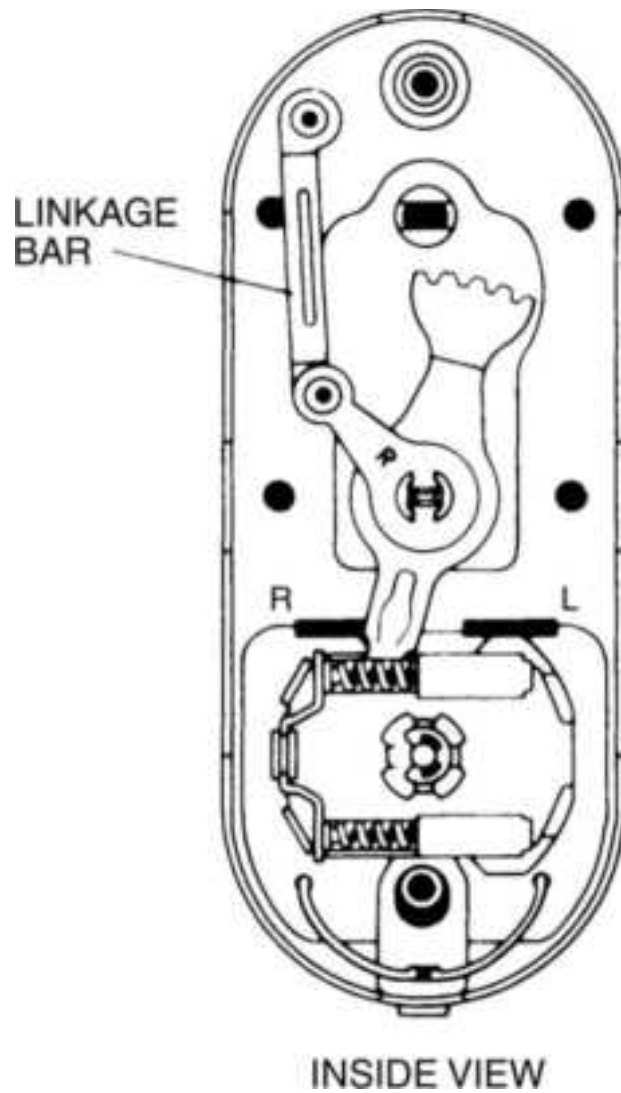

**Figure 13.106** Right-hand conversion, Step 14.
14. Install the linkage bar (Fig. 13.106 ).